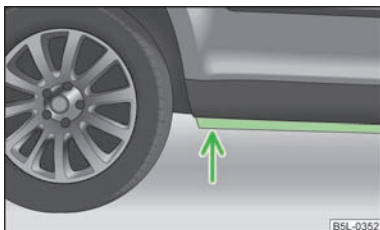

Fig. 136
- Therefore determine the depth of the water before driving through bodies of water. The water level must not exceed the web on the lower sill » Fig. 136,